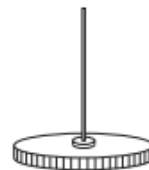

Figure 3.
13. Insert a second axle into the gear (see Figure 3).